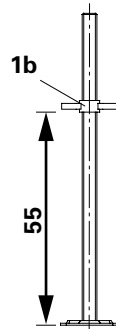

Fig. A2.03
- Base Spindle UJB 38-80/55 with yellow Quick Jack Nut (**1b**) = max. 55 cm. (Fig. A2.03)